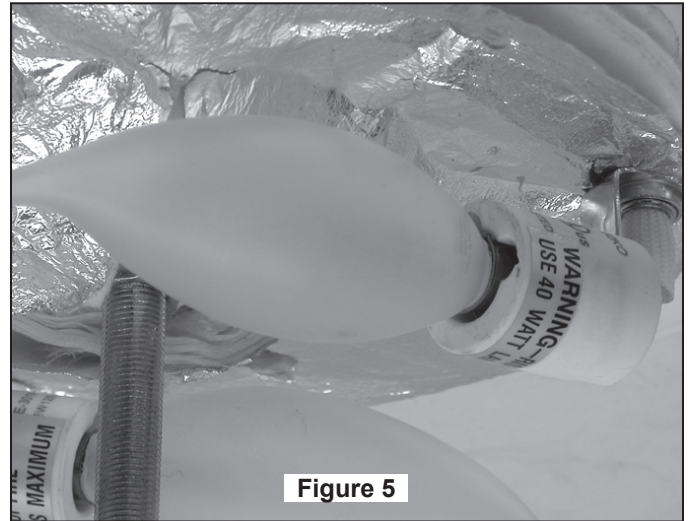

Figure 5
5. Install three Candelabra Bulbs (not included - 40 watts max) in each of the sockets on the Downlight Socket Plate Assembly. (Figure 5)